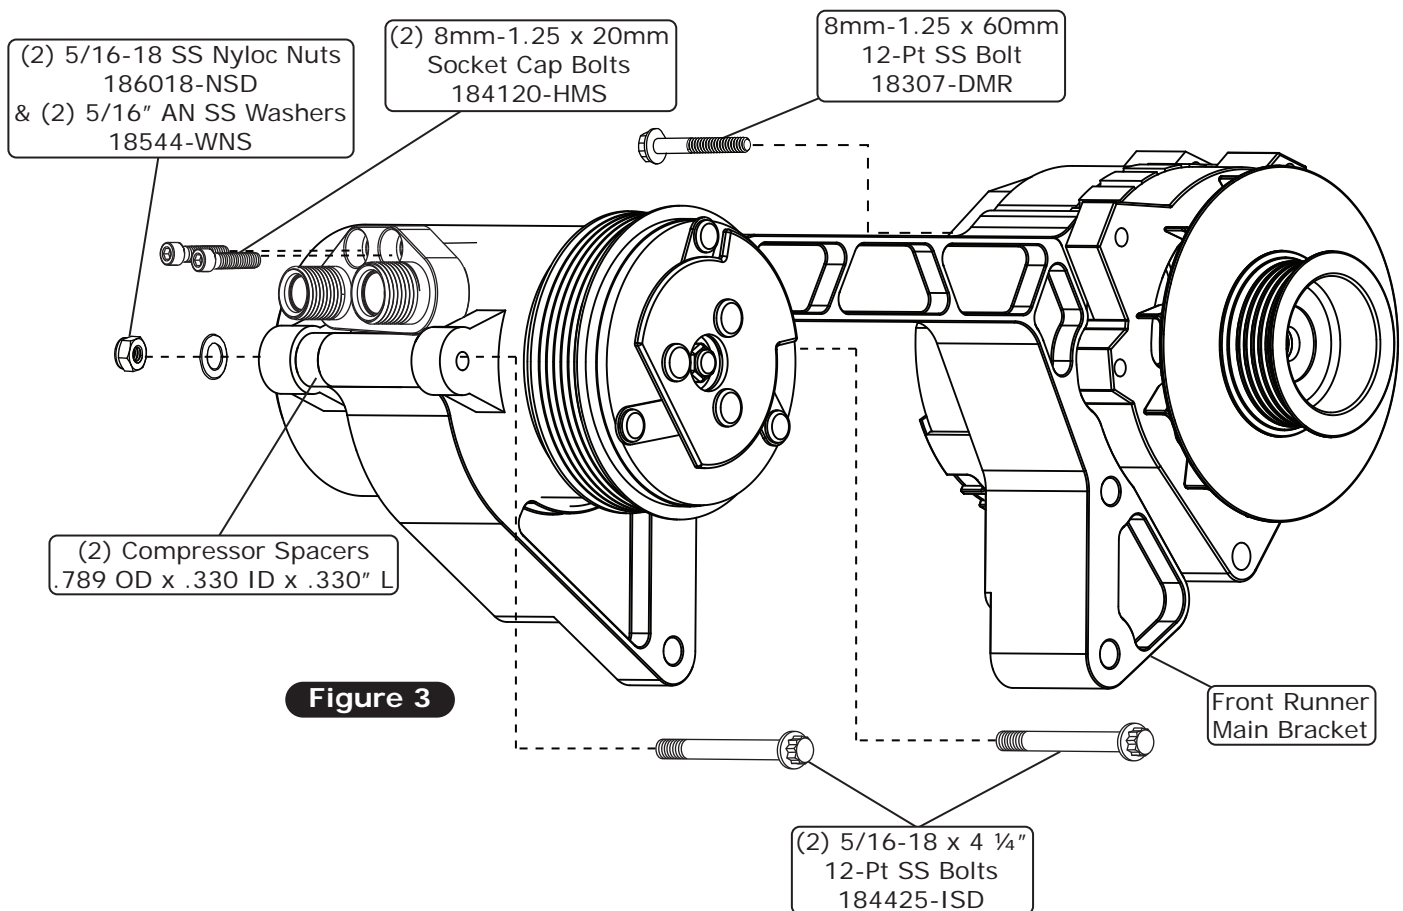

Figure 3
1. Install the compressor block onto the compressor using (2) 8mm-1.25 x 20mm socket cap bolts as shown in Figure 3, below. Torque to 18 lb ft. Keep the ports sealed with caps until the A/C circuit has been completed.
2. Install the compressor onto the Front Runner main bracket using (2) .789 OD x .330 ID x .330" L spacers, with (1) between the main bracket and the compressor's upper rear mounting tab, and (1) between the main bracket and the compressor's lower rear mounting tab. Secure the compressor to the main bracket using (2) 5/16-18 x 4 1/4" 12-Pt SS bolts, (2) 5/16" AN SS washers and (2) 5/16-18 SS nyloc nuts (See Figure 3, below). The compressor mounting ears contain sliding bushings that are drawn in and clamp to the bracket when compressed. Torque to 25 lb ft.
3. Install the alternator onto the main bracket using an 8mm-1.25 x 60mm 12-Pt SS bolt (See Figure 3, below). Torque to 24-28 lb ft.